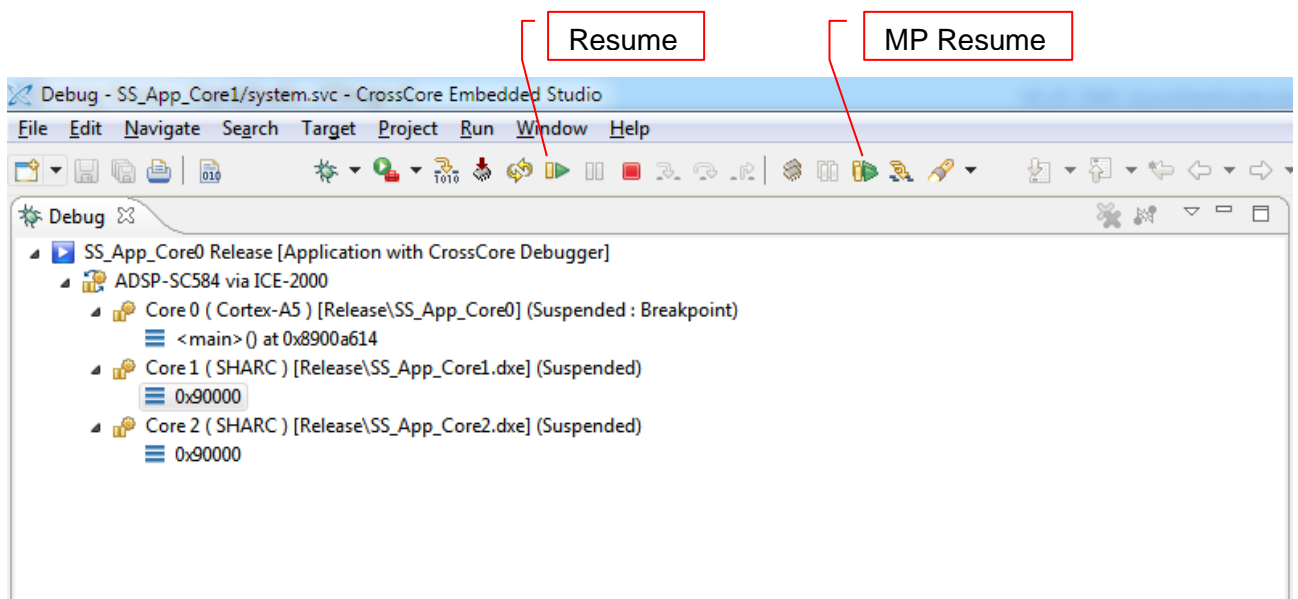

Figure 16: Debug Configuration (Resume and MP Resume)
8. Reset the board and press 'Debug' to launch the debug session. Click on "MP Resume" to run Core 0 (ARM). This enables the Core 1 and 2 (SHARC). Then individually select and run Core 1 and Core 2 by clicking on "Resume" as shown in Figure 16